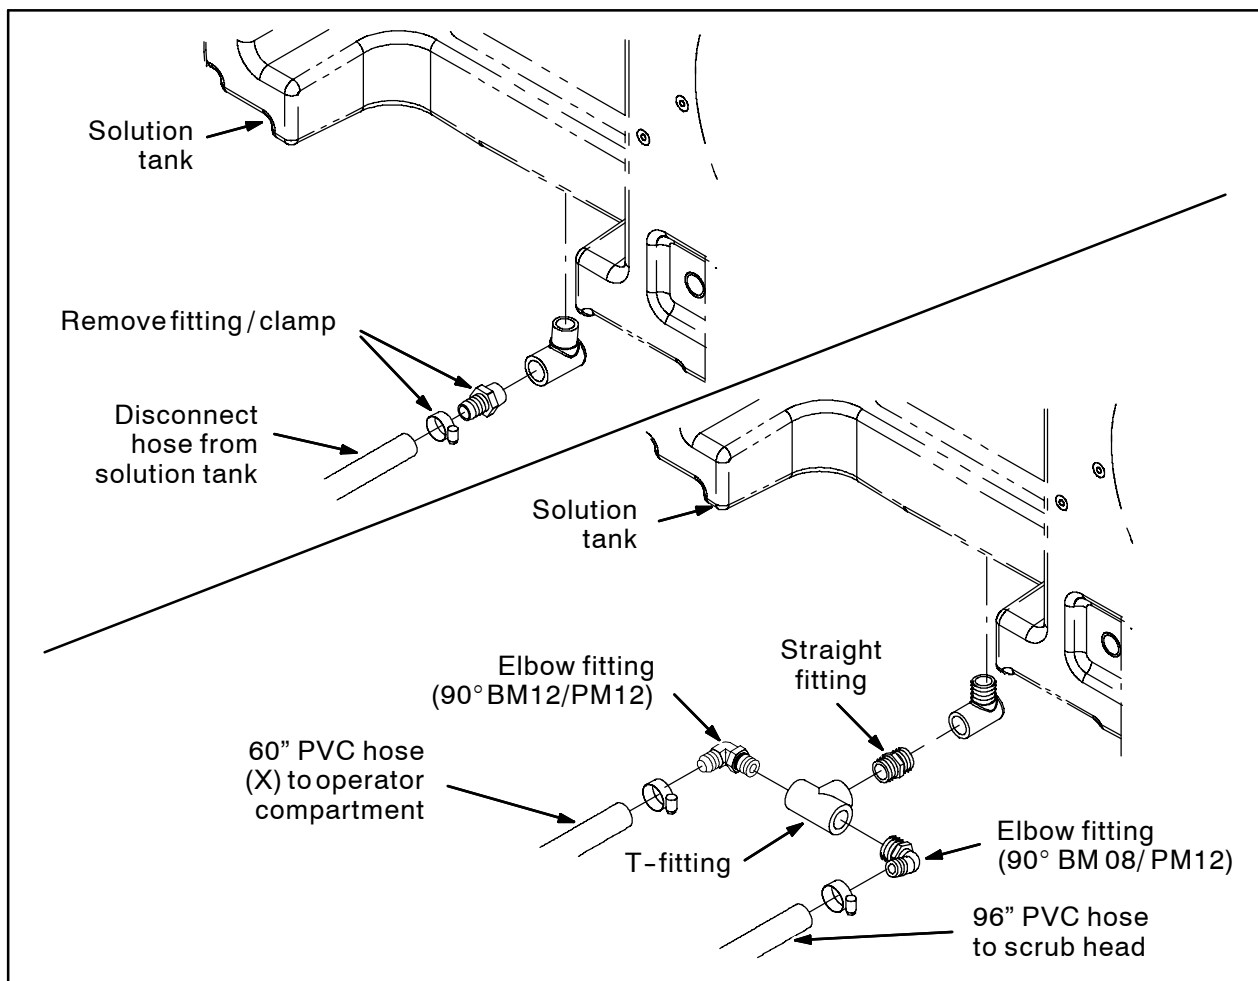

FIG. 1
2. Disconnect the 96" PVC hose from the solution tank. Discard the hose clamp. Refer to Fig. 1.
3. Remove the straight fitting from the 90° fitting on the bottom of the solution tank. Discard the straight fitting. Refer to Fig. 1.
4. Install a straight fitting and two 90° fittings into the t-fitting. Refer to Fig. 1.
5. Install the t-fitting from the previous step onto the 90° fitting on the bottom of the solution tank. Refer to Fig. 1.
6. Use a hose clamp to connect the 96" PVC hose to the t-fitting assembly. Refer to Fig. 1.
7. Cut a 48" length of PVC hose. Refer to Fig. 1.
8. Use a hose clamp to connect the 60" PVC hose to the new elbow fitting installed on the t-fitting. Refer to Fig. 1.